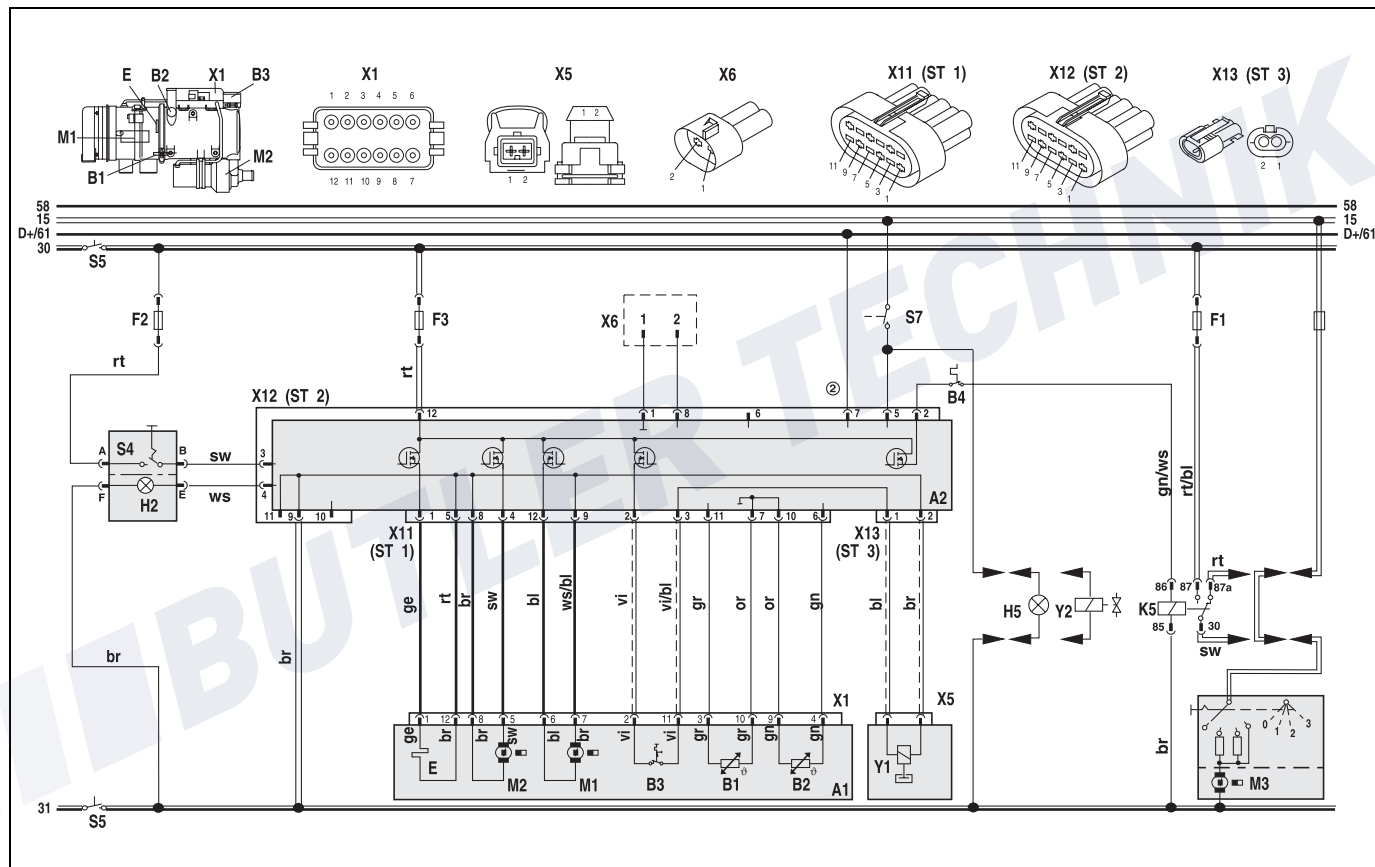

Fig. 17: System circuit for Thermo 90 S – ADR, 24 V, with switch, see pages 51 and 52 for legend
- Switch, see circuit diagrams in Figures 17, 18, 21 or 22.